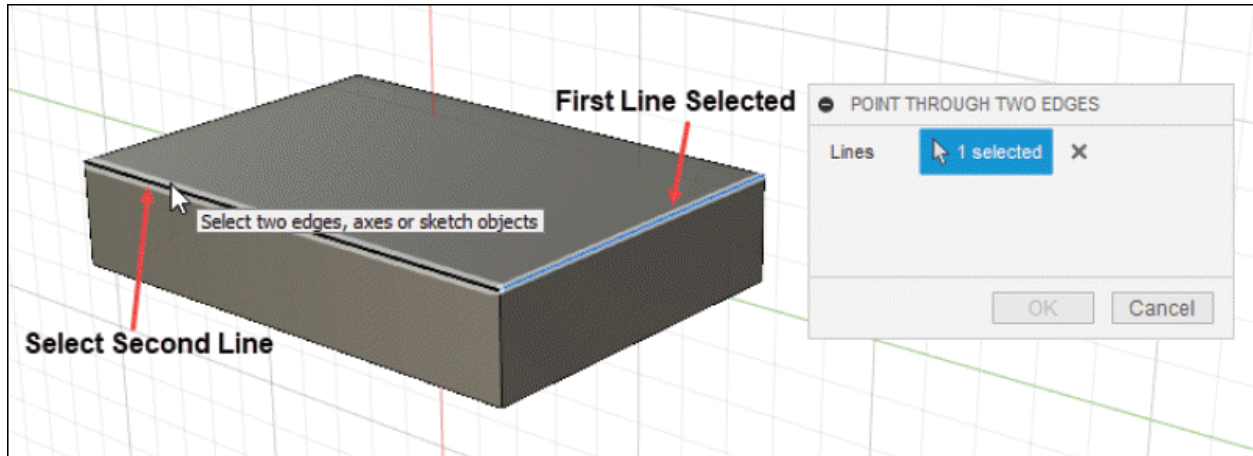

Figure-127. Selection of lines to create point
- Select the two intersecting lines on the model to create point; refer to Figure-127.